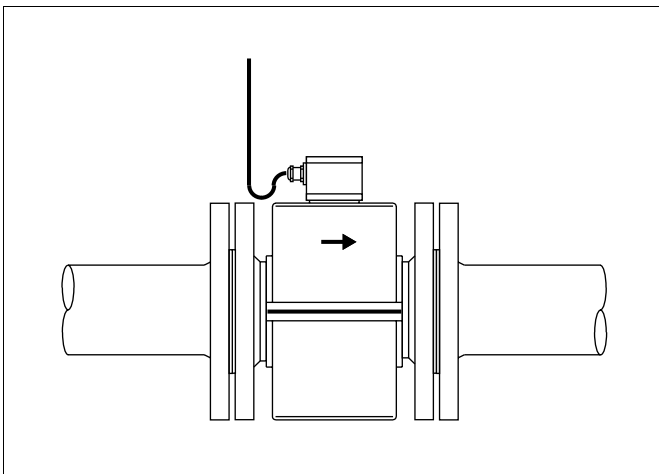

Fig. 36 Cable Routing
- When installing the signal/excitation cable to the flowmeter primary a water trap should be provided, (Fig. 36).